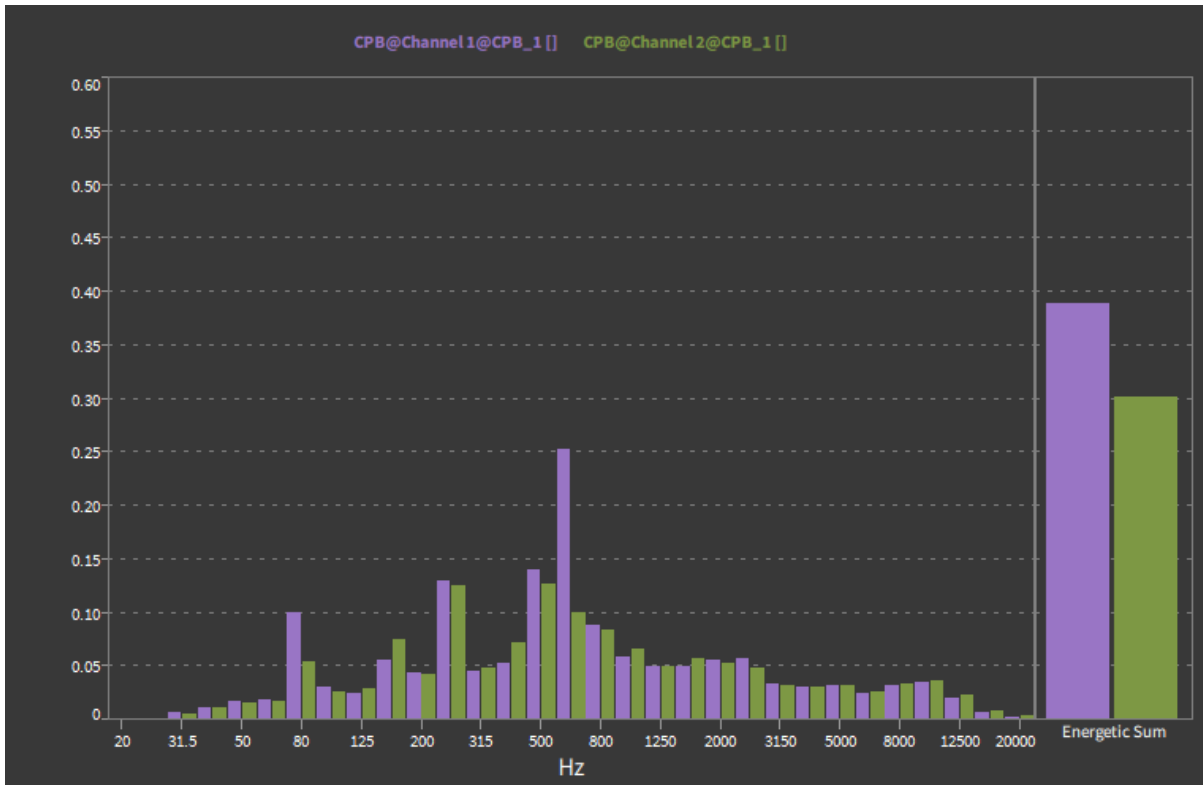

Fig. 8.46: Array Chart with *Total* column included
- Total Computation: It is possible to include a *Total* column (see Fig. 8.46) on the right hand side that display the following value: